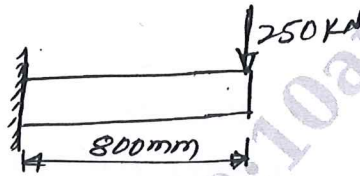

Fig.Q5(b)
- b. A cantilever beam subjected to a point load of 250 kN as shown in Fig.Q5(b). Determine the deflection at the free end and the support reactions. Take  $E = 200$  GPa,  $I = 4 \times 10^6$  mm4. (08 Marks)